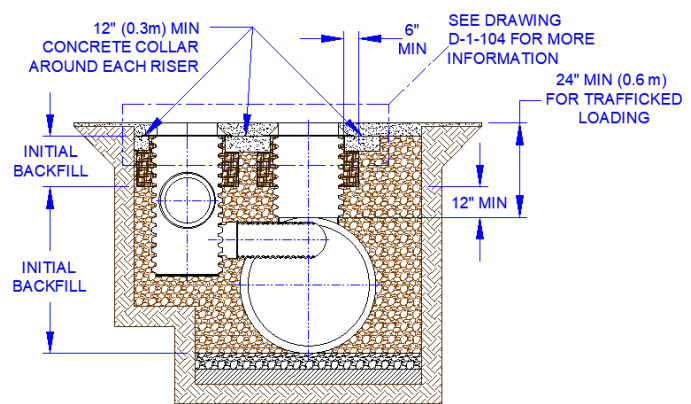

Figure 7: Final Backfill
- Position the SWQU on the bedding and install initial backfill in layers uniformly around the unit, compacting each layer before adding the next. Initial backfill is required a minimum of 12" (0.3 m) above the SWQU crown. This is shown in Figure 7. Once initial backfill is placed, fill the SWQU, up to the sediment weir plate, with water.
- In trafficked installations, a concrete collar is also required around each riser. Initial backfill material should be placed at least 6" (0.15 m) around each riser to properly support a recommended 12" minimum concrete collar around each riser, as shown in Figure 7. The selected frame and grate, sold by others, must be able to support the traffic load.